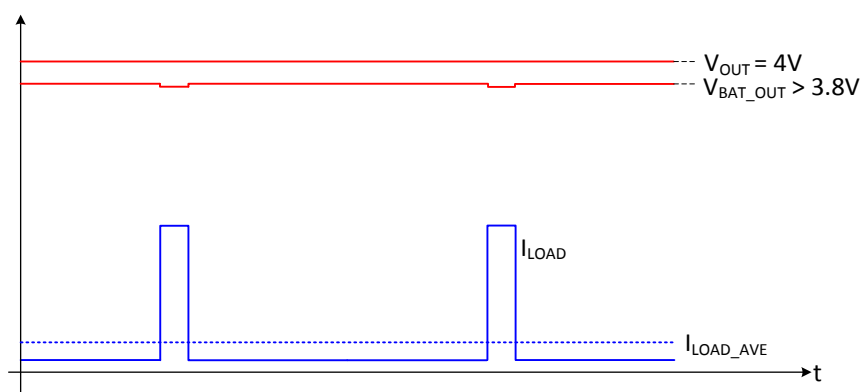

Figure 5: Schematic Diagram of Operating Waveform
The current limit resistor is determined by the average load current and output voltage of the lithium polymer battery in normal operation condition. In order to have enough energy to power the load when the alkaline battery is removed, the voltage of the lithium polymer battery should be set to higher than 3.8V during normal operation as shown in Figure 5. The resistor value can be calculated by equation (1), where V_{OUT} is the TPS61220 output voltage, and V_{BAT_OUT} is the lithium polymer battery voltage, and I_{LOAD_AVE} is the average load current. In this reference design, a 40ohm resistor is selected to support 2.5mA average load current with 3.9V output voltage.